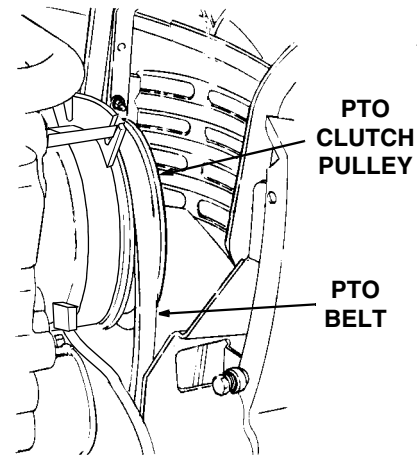

Figure 37
- Install the forward end of the PTO belt on the PTO clutch pulley by passing the belt upward inside the front of the tractor frame. Ensure that the narrow side of the PTO belt engages the groove of the clutch pulley (Refer to Figure 37).